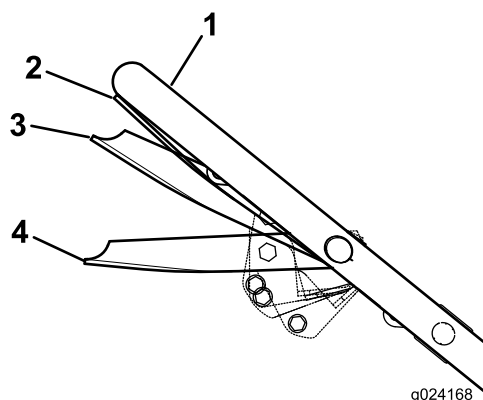

Figure 15
4. Hold the blade-control bar in the Run/Shift position, about 2.5 cm (1 inch) below the handle (Figure 15).